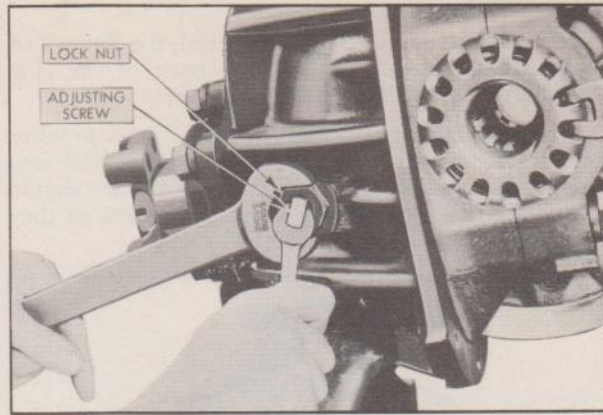

Fig. 30—Ring Gear Thrust Pad Adjustment
7. Install the thrust pad and tighten the screw until the bronze tip lightly engages the back of the ring gear while rotating gear. Back off the screw one-twelfth ( $1/12$ ) of a turn and then tighten the lock nut, making sure the screw does not turn during the locking process. This will provide .005" to .007" clearance, Fig. 30.